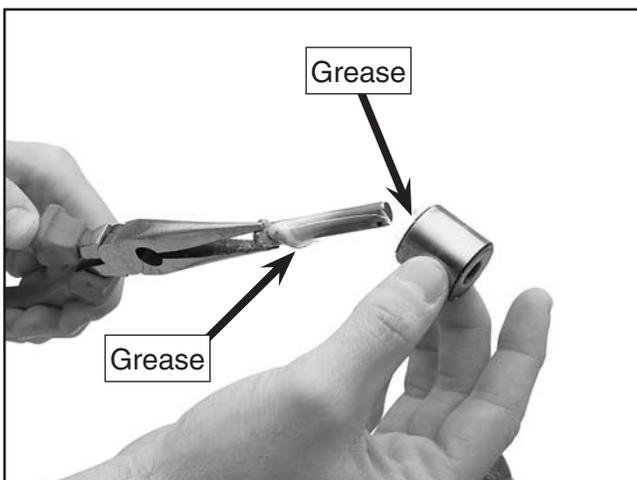

Figure 22. Greasing roller shafts and rollers.
4. Coat the roller shafts with high-temp grease and insert them into the rollers and blade, as shown in **Figure 22**, to spread the grease.